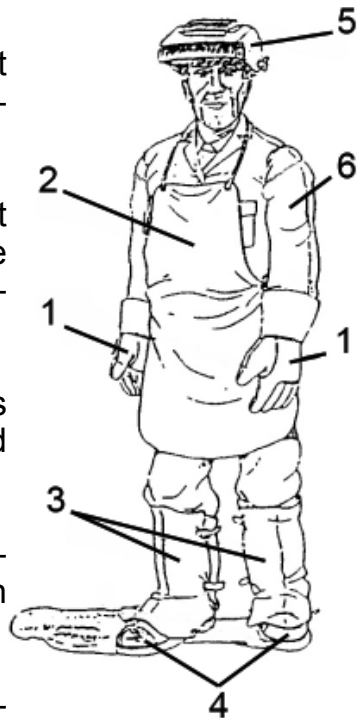

Fig.1
• Workers and their assistants must protect themselves by wearing closed, non-flammable protection coveralls, without pockets or rolled sleeves or legs. Any residue of oil or grease must be cleaned from the garments before wearing them. Only wear CE marked garments suitable for arc welding (Fig. 1):